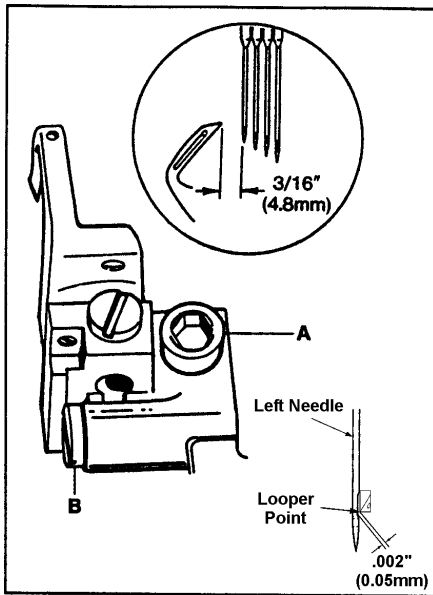

FIG. 15
Turn the handwheel in operating direction until the looper has traveled fully to the left. Loosen screw (A, Fig. 15) and move the looper holder to the right or left until the distance from the point of the looper to the center of the first (left) needle is $3/16$ " (4.8mm). Clearance between the looper point and the scarf of the needle must not exceed .002" (0.05mm). Turn screw (B) until the .002" (0.05mm) dimension is achieved. Tighten screw (A).